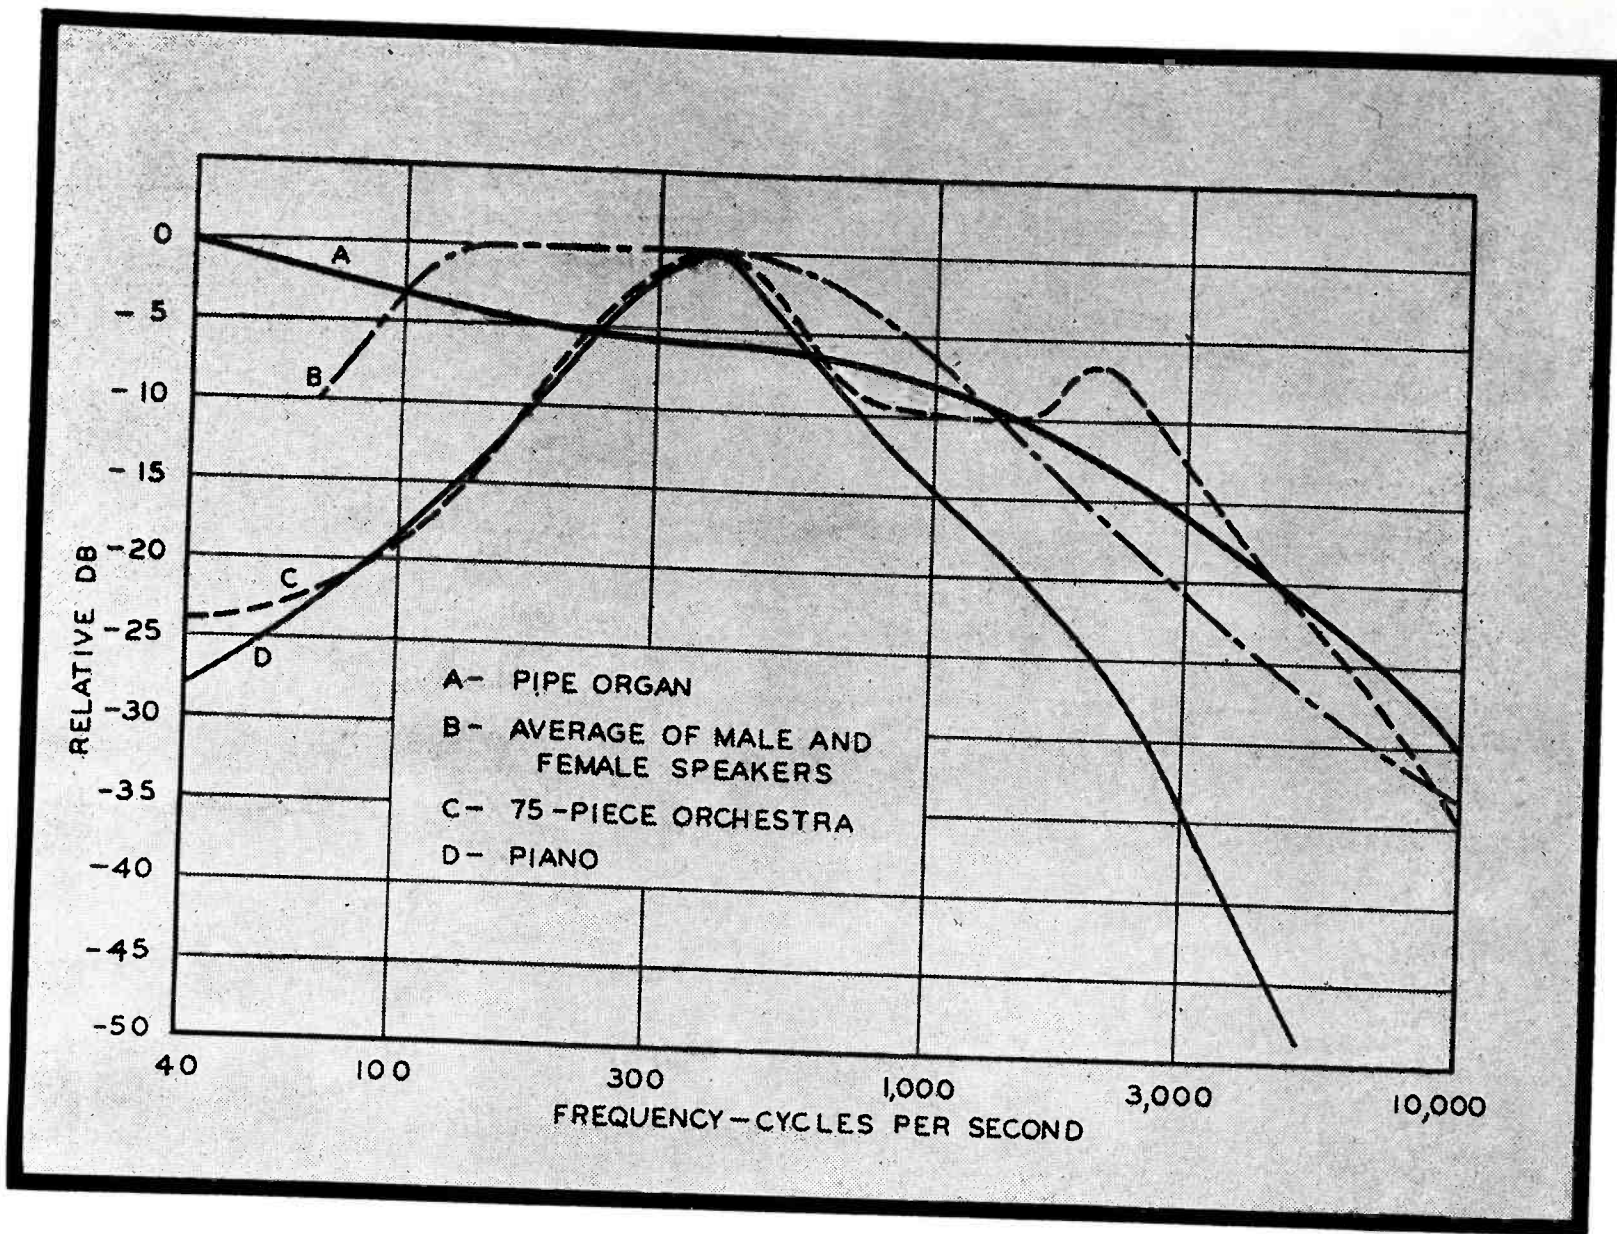

Figure 10
**Analysis of Figure 10**
Figure 10 shows the energy distribution of several types of sound sources. It may be seen from this that all sources have low intensity at high frequencies while all but the pipe organ drop off also at low frequencies. In choosing a  $F(f)$  ideal for transmission systems a number of factors must be considered, besides the distribution factor illustrated in Figure 10. Some mediums impose other limitations on the amplitude versus frequency curves. All systems using disc recordings must be mechanically constant amplitude below the cross over point if cross-cutting is to be avoided. Electrically this gives rise to a characteristic falling off at the bass end of